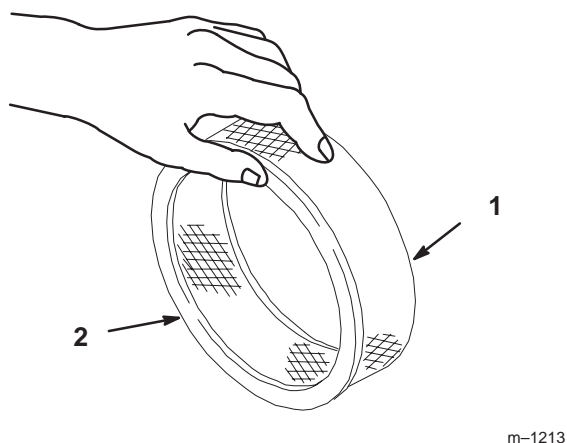

Figure 24
- A. Lightly tap the element on a flat surface to remove dust and dirt (Fig. 24).